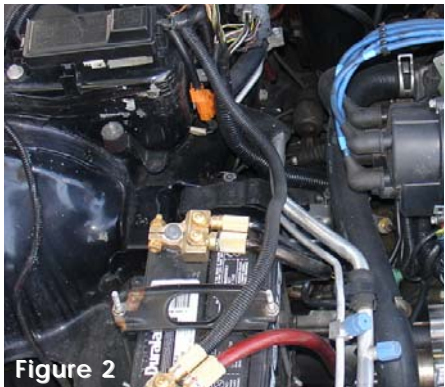

Figure 2
- 1- Loosen clamps on the air intake box and the throttle body. Unhitch latches located on top of the air box lid of the air cleaning box. Remove the top lid and remove the panel filter that sits on top of the lower air box cleaner. The air intake box and air intake duct leading to the throttle body are now all removed. This installation requires the removal of the front bumper, the air resonator box located in the lower, passenger side bumper will also be removed. (See fig. 2)